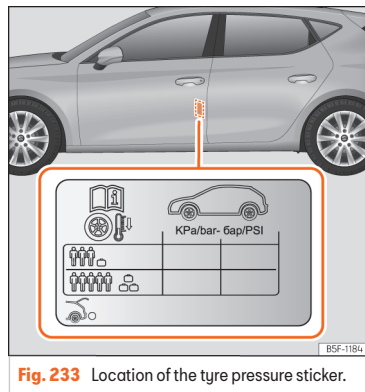

Fig. 233 Location of the tyre pressure sticker.
- Adjust tyre pressure to the load being carried by the vehicle »» Fig. 233.
The values of the tyre pressure are shown on the sticker label located on the rear frame of the front left door »» Fig. 233.
The tyre pressure must be adjusted according to the load the vehicle is carrying. If the vehicle is going to be fully loaded, increase the tyre pressure to the maximum load value shown on the sticker label »» Fig. 233.
In the case of a minimised temporary spare wheel (125/70 R16 or 125/70 R18) inflate to a pressure of 4,2 bar as indicated on the tyre pressure label »» Fig. 233.
- The driver is responsible for ensuring that all of the vehicle tyres are correctly inflated to the right pressure. The recommended tyre pressure is indicated on the label »» Fig. 233.
- Tyre pressure should be that indicated on the label when the tyres are cold at all times »» Fig. 233.